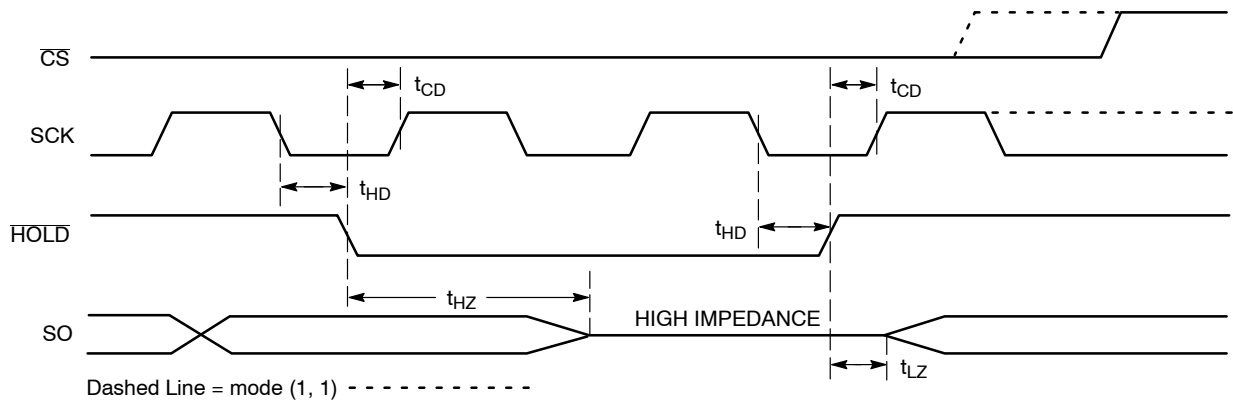

Figure 11. $\overline{\text{HOLD}}$ Timing
The $\overline{\text{HOLD}}$ input can be used to pause communication between host and NV25512. To pause, $\overline{\text{HOLD}}$ must be taken low while SCK is low (Figure 11). During the hold condition the device must remain selected ($\overline{\text{CS}}$ low). During the pause, the data output pin (SO) is tri-stated (high impedance) and SI transitions are ignored. To resume communication, $\overline{\text{HOLD}}$ must be taken high while SCK is low.